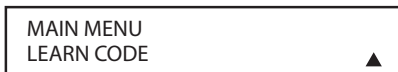

Figure 132.
2. The remote's **MAIN MENU** message will appear in the LCD and the **Set Button** will remain illuminated in red. Press the **Navigation Button** once so that **LEARN CODE** appears on the bottom line of the LCD screen, as shown in **Figure 132**.